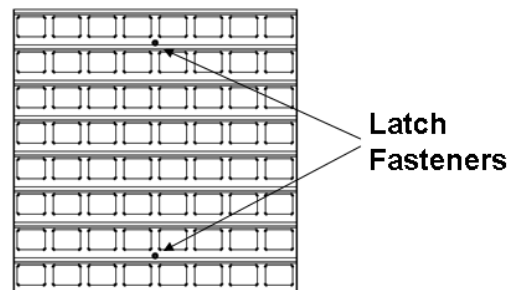

Figure 33: Module, Front View
1. Loosen the latch fasteners on the front face the LED module using a 1/8" hex wrench (or 7/32" nut driver for displays installed prior to 11/29/05). One latch fastener is centered below the top row of pixels and one is centered above the bottom row (**Figure 33**).